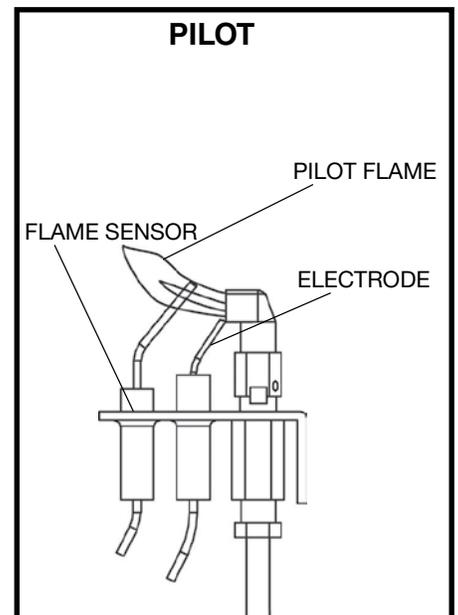

Figure 66: Pilot assembly.
- b) Check the pilot system for proper flame size and operation. Clean pilot free of soot, dust or any other deposits (Figure 66)